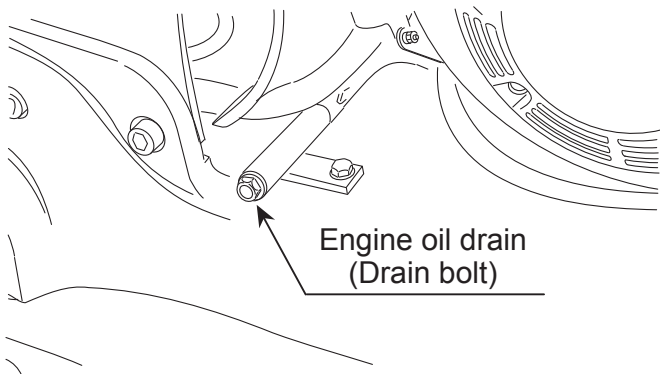

Figure 28. Draining Engine Oil
1. Remove the oil drain bolt (Figure 28), and sealing washer and allow the oil to drain into a suitable container.